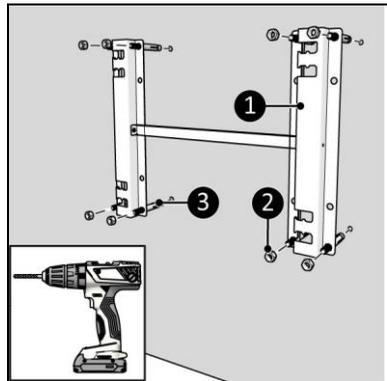

Figure 10
1. Place the bracket against the wall, with the bracket openings at the left, and mark the eight holes (Figure 10).
3. Place the anchor bolts (Figure 10, pos.3).
4. Tighten the wall bracket (Figure 10, pos. 1) to the wall with the eight nuts (Figure 10, pos. 2).